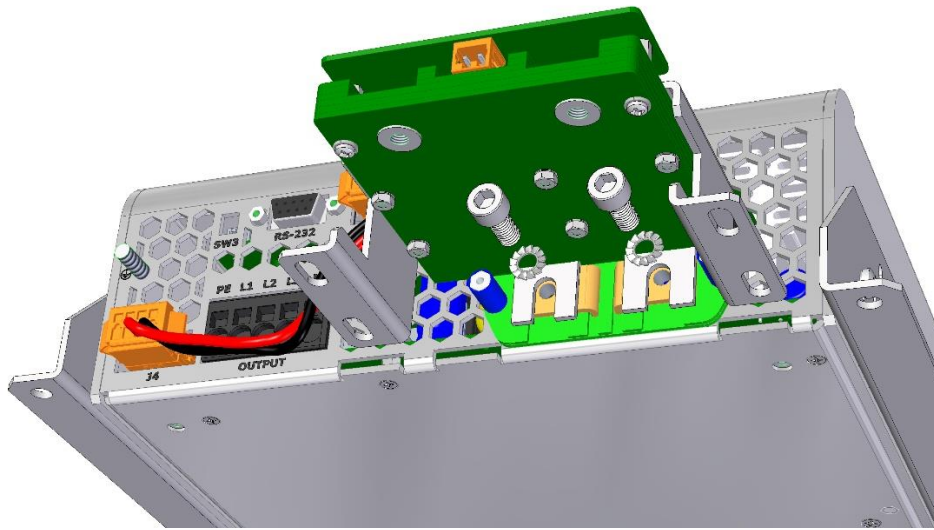

Figure-1
4. Insert terminals 3 and 4 on the input terminals of the inverter. See figure-1.